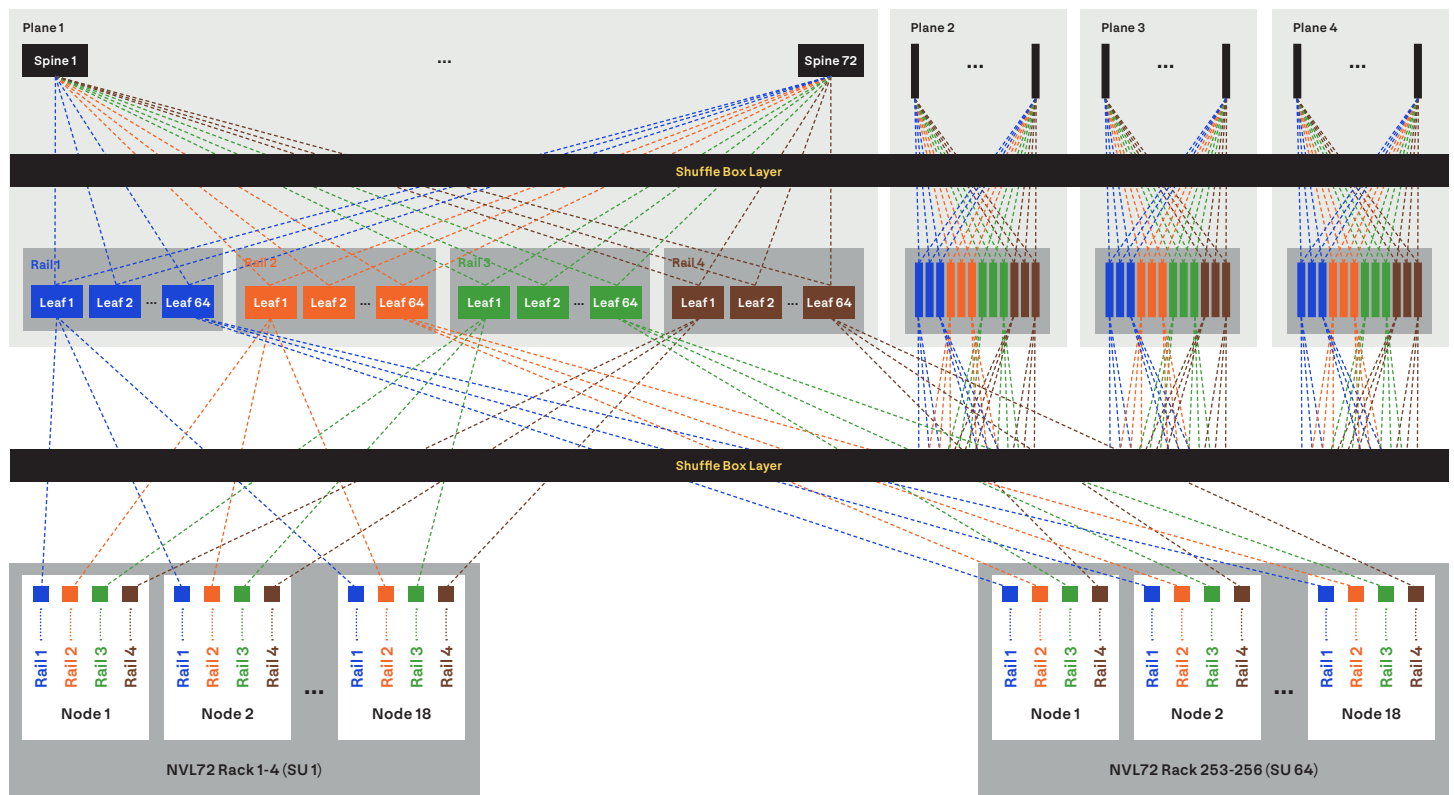

Figure 36. Example of 18,432 GPU Compute Fabric GB300 Ethernet, Quad-Plane Topology utilizing a Two-Tier architecture with Shuffle Box.
- **Shuffle Boxes** are required to manage the cabling complexity in Quad-Plane designs, allowing a large number of GPUs to be deployed using a **Two-Tier (Leaf-Spine)** architecture (Figure 36). The Shuffle Box can be placed between the Server and the Leaf Switch or between the Leaf Switch and the Spine Switch.